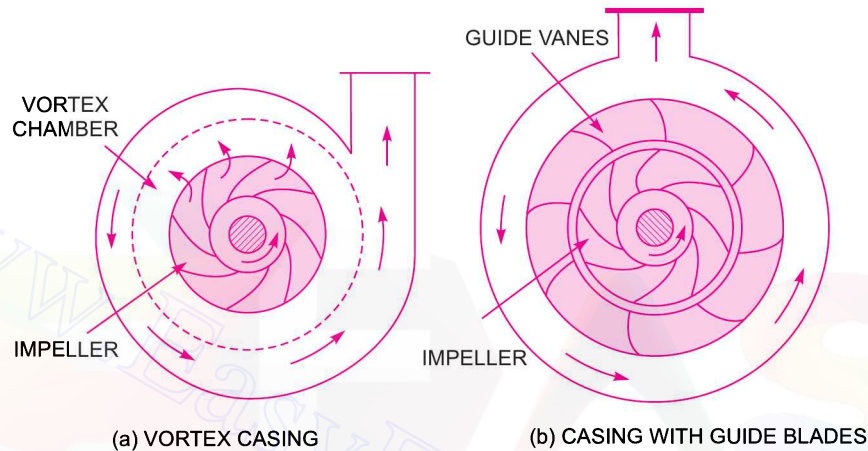

Fig. 19.2 Different types of casing.
- (b) Vortex casing as shown in Fig. 19.2 (a).
- (c) Casing with guide blades as shown in Fig. 19.2 (b).
(b) **Vortex Casing.** If a circular chamber is introduced between the casing and the impeller as shown in Fig. 19.2 (a), the casing is known as Vortex Casing. By introducing the circular chamber, the loss of energy due to the formation of eddies is reduced to a considerable extent. Thus the efficiency of the pump is more than the efficiency when only volute casing is provided.
(c) **Casing with Guide Blades.** This casing is shown in Fig. 19.2 (b) in which the impeller is surrounded by a series of guide blades mounted on a ring which is known as diffuser. The guide vanes are designed in such a way that the water from the impeller enters the guide vanes without stock.
Also the area of the guide vanes increases, thus reducing the velocity of flow through guide vanes and consequently increasing the pressure of water. The water from the guide vanes then passes through the surrounding casing which is in most of the cases concentric with the impeller as shown in Fig. 19.2 (b).